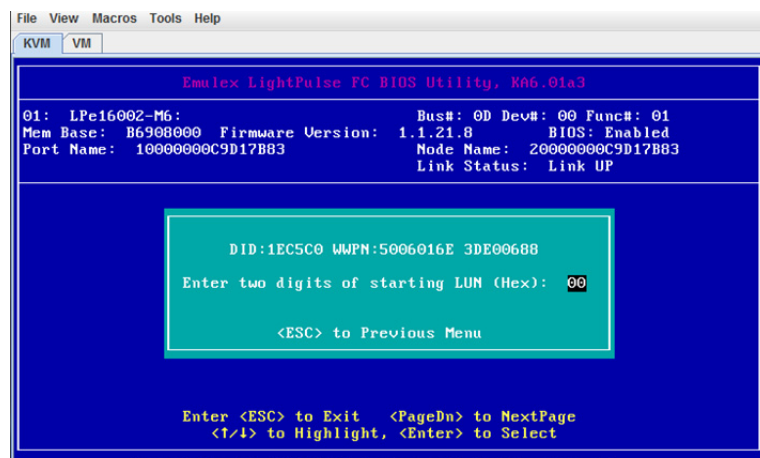

Figure 26 Setting the LUN ID for the boot device
- Set the boot LUN ID as **00**, as shown in Figure 26.